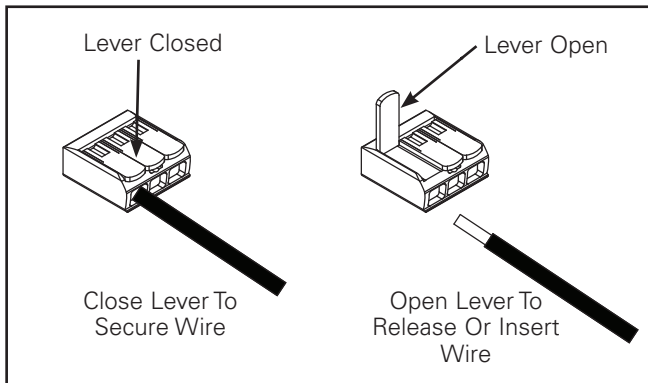

Figure 43
4. Connect supply lead wires to junction box lead wires (line, neutral and ground) in the fixture using the provided lever nut connectors. (Figure 43). Be careful not to leave any bare conductors outside of the lever nut connectors.
5. Lift the orange tab on the lever nut to disengage the wire and close to secure the wire in place. (Figure 43).